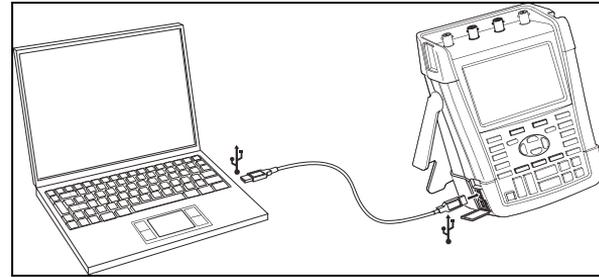

Figure 36. Connecting to a Computer
- Use a USB-A to mini-USB-B interface cable to connect a computer to the mini USB PORT of the test tool (See Figure 36).